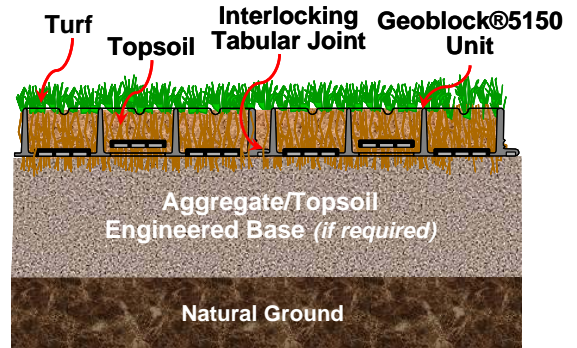

Figure 1 The Geoblock5150 Porous Pavement System Components
- Figure 1 The Geoblock5150 Porous Pavement System Components 1
The fully developed system has four major components (see Figure 1). The components are